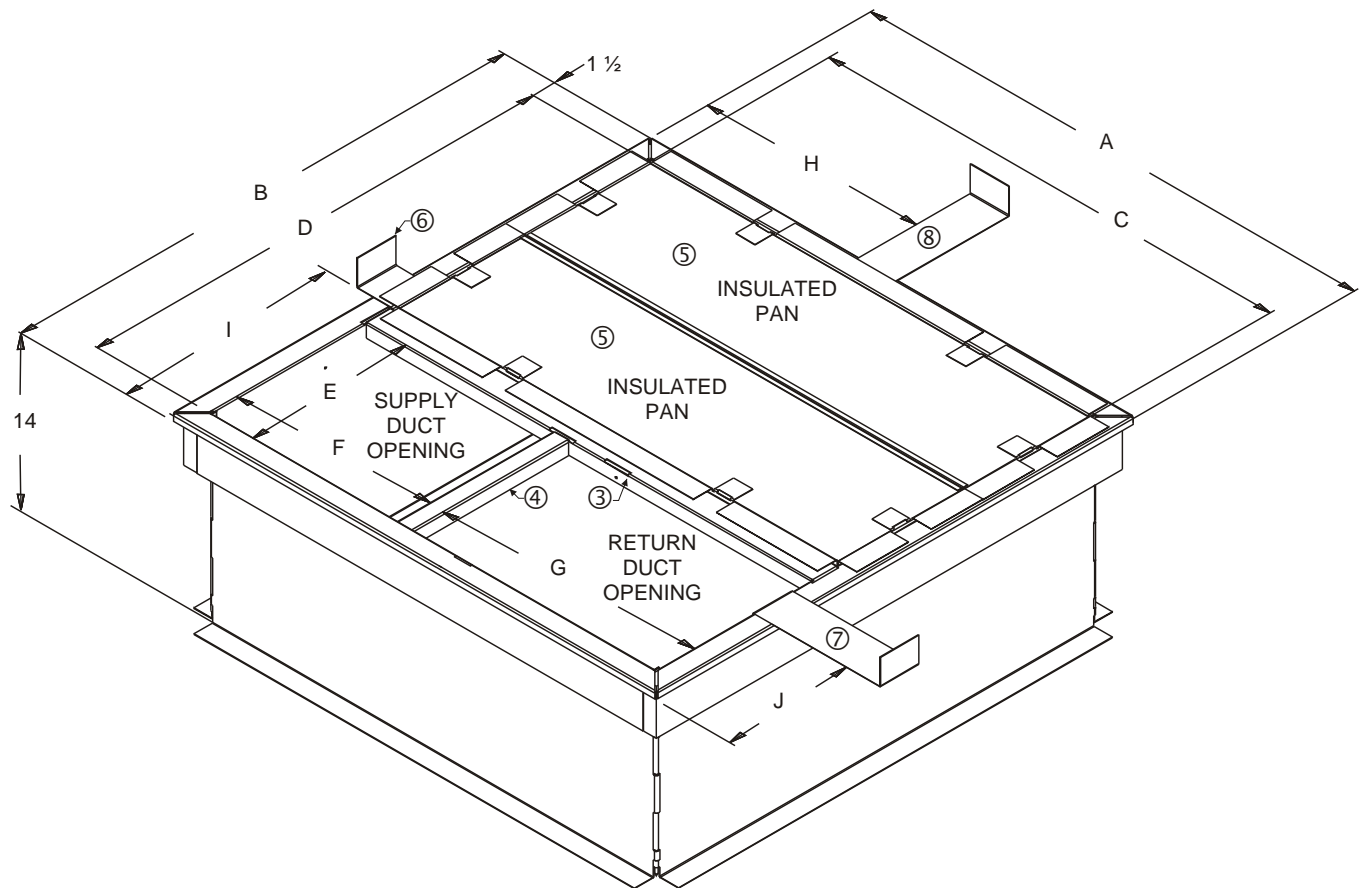

Figure 6
Place curb restraint ⑥ in location that is shown in Figure 6 and secure with screws provided. Do the same for the other curb restraints ⑦ and ⑧.
Install vertical brace ③ on the curb as shown with the roof opening over the desired duct location. See Figure 6.
Place the horizontal brace ④ on the curb and the duct support ③ making sure that it is in the right location as shown in Figure 6. Also See "DETAILS #1 and #2".
Place insulated pans ⑤ in curb as shown in Figure 6.